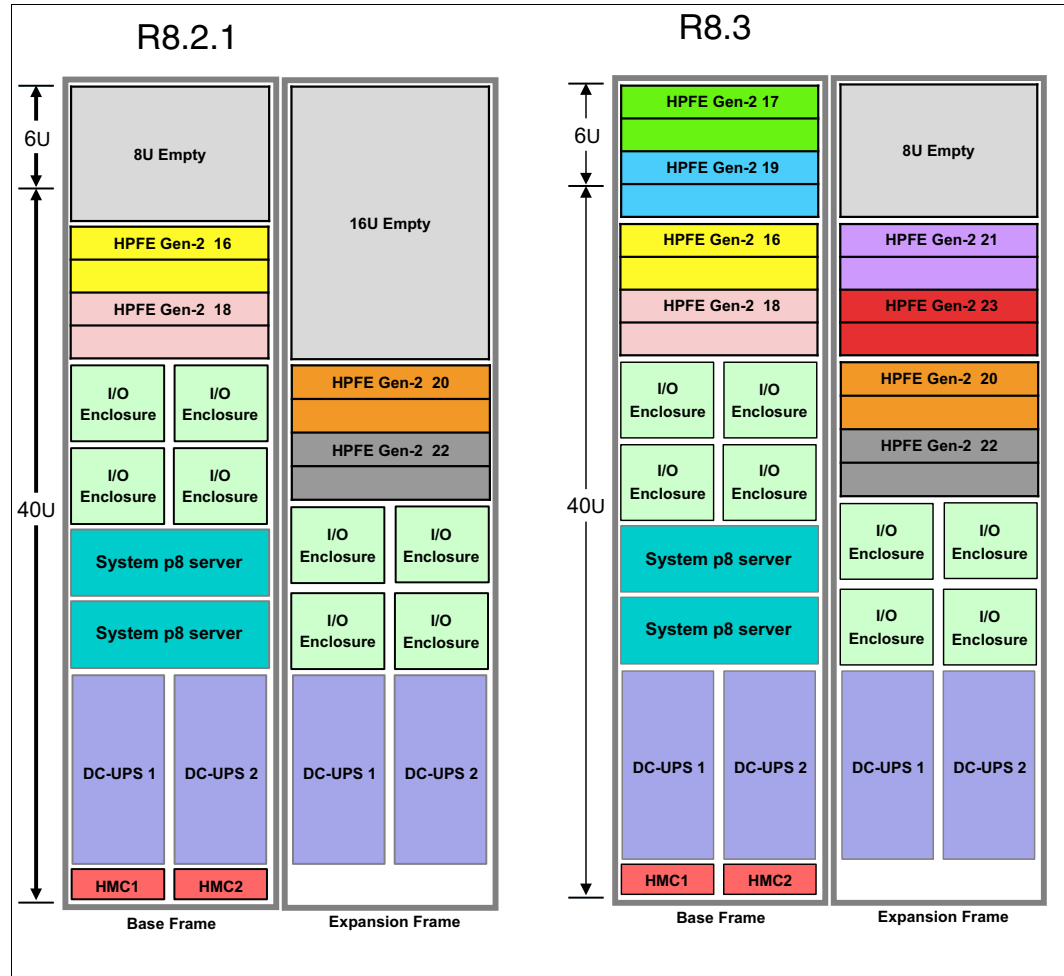

Figure 2-9 DS8886 3 Phase power MTM 533x model 986 (Base) and 86E (Expansion)
- DS8886F MTM 533x single phase models 985 and 85E and three phase models 986 and 86E can be fully populated with HPFE Gen2, doubling the capacity. With the release of microcode version 8.3, the maximum configuration goes from 192 to 384 Flash drives. Figure 2-9 shows an example of DS8886F MTM 533x with three-phase power (models 986 and 86E).